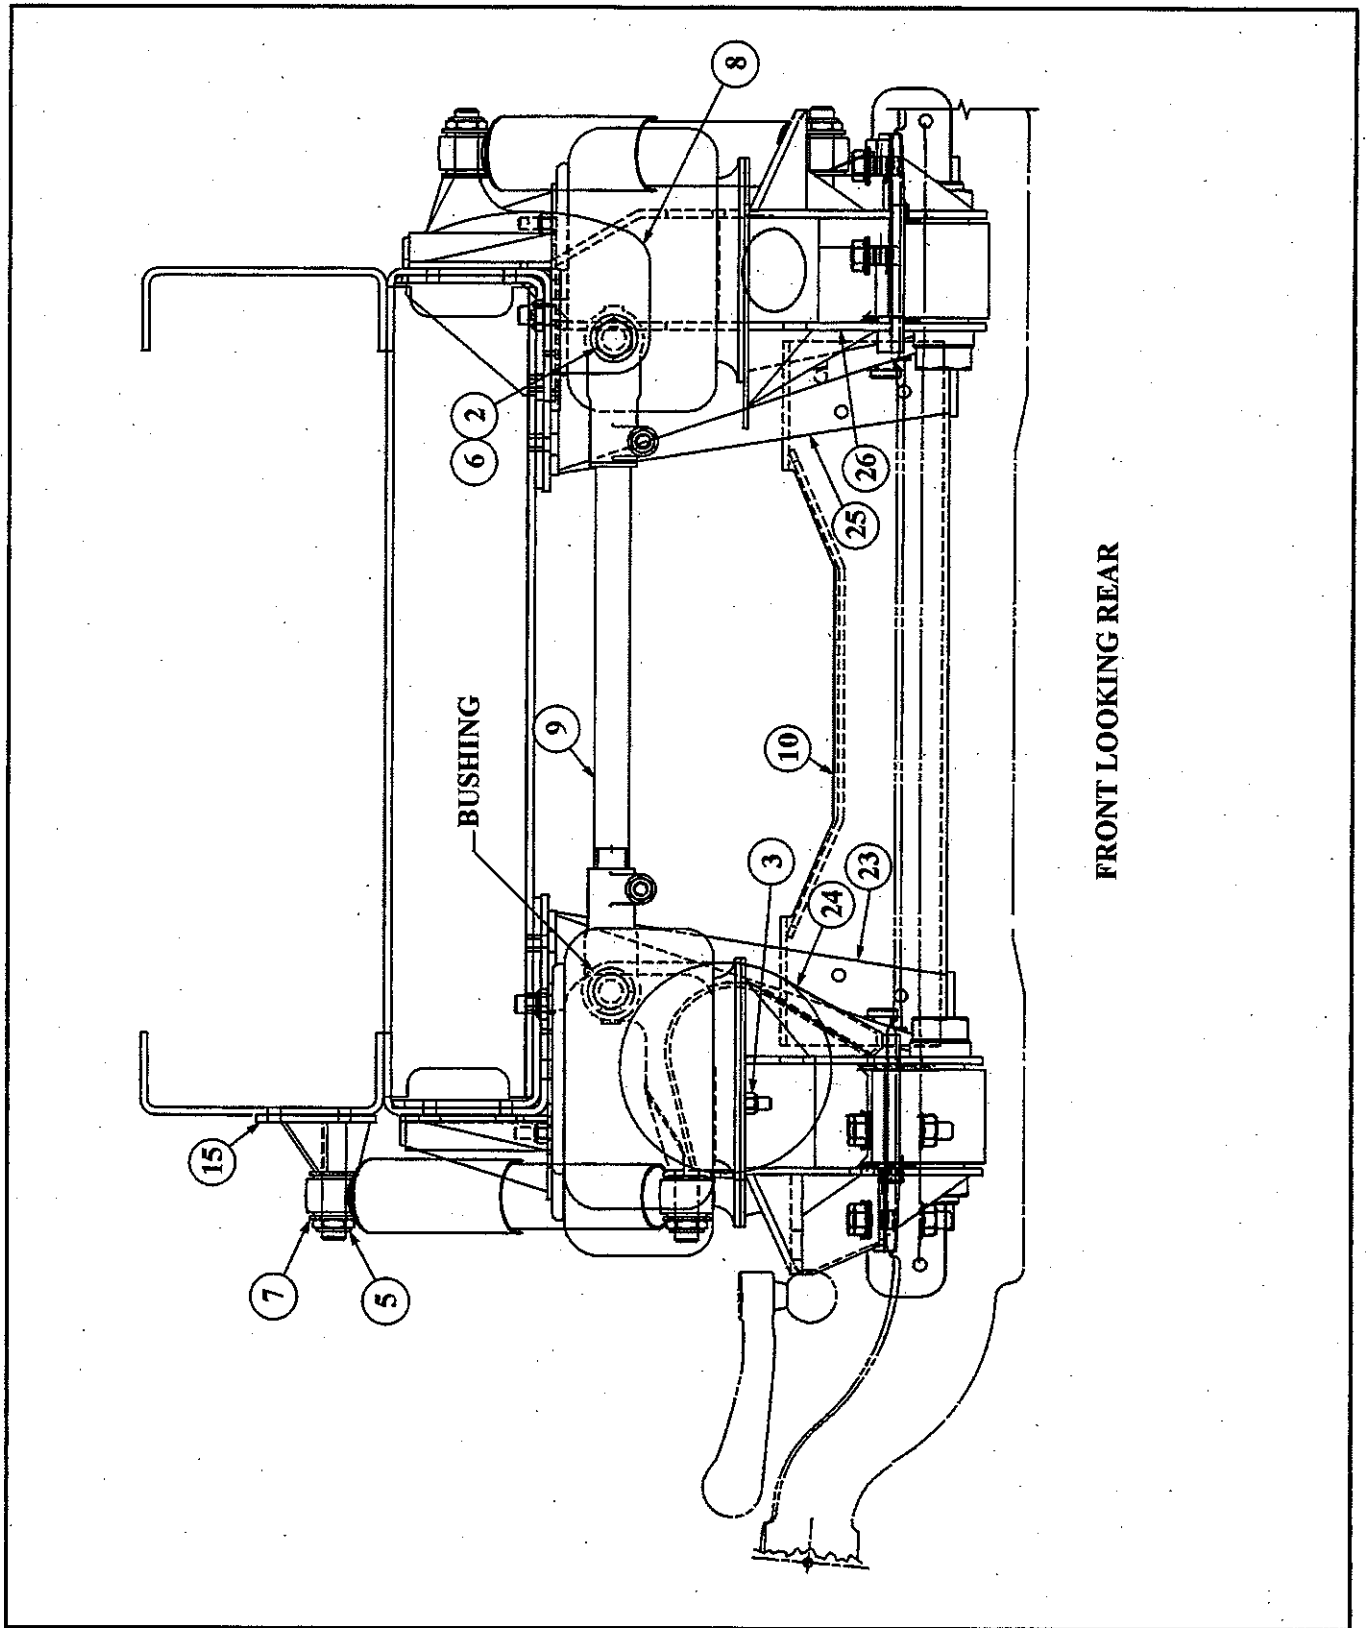

Figure 5—Transverse Torque Rod and Bushing Removal
Remove nut (6) and bolt (2) from sway bar (9). (See Figure 5—Transverse Torque Rod and Bushing Removal.)